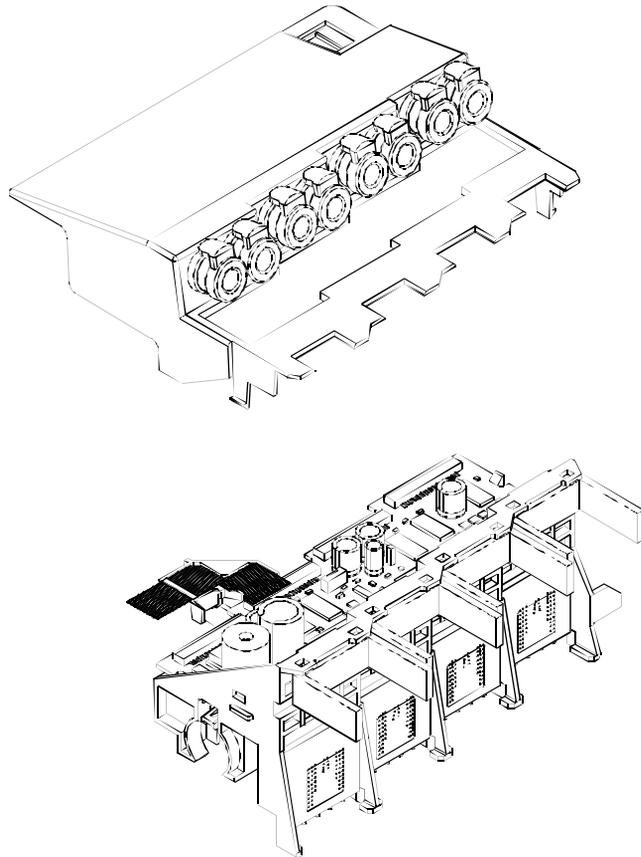

Figure 5-10. Electronics Cover Removal.
4. With a flathead screwdriver, press the Electronics Cover (p/o the Ink Delivery System) tab located in the upper slot on the left side of the Carriage Assembly. See Figure 5-10. Lift up on the front left side of the Electronics Cover until it comes part way off of the Carriage Assembly. Then lift up on the front right side of the Electronics Cover and move the Electronics Cover slightly to the left so that the back of it clears the Back Support Bracket.